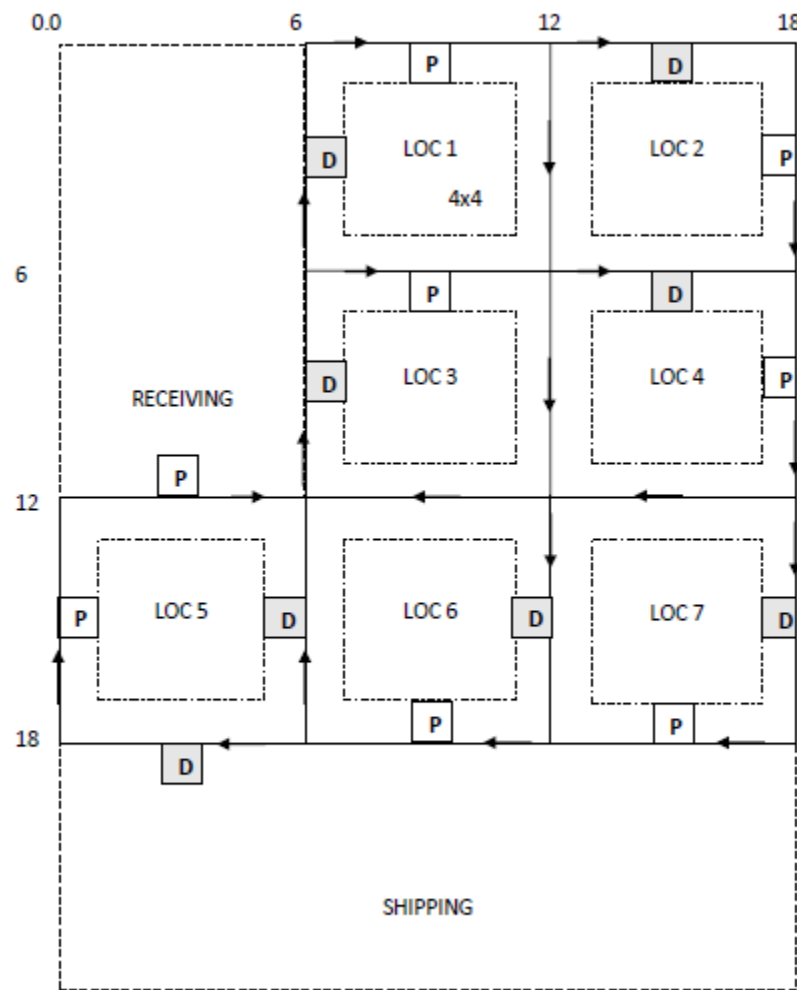

Figure 1: Candidate machine locations together with P and D stations and the AGV flow path
The block layout of the facility is shown in Figure 1. There are 7 different locations (LOC) that can be used for 6 CNC machines and a central buffer area. The locations of the machines and the buffer zone have not been determined yet. Each machine can fit into an area of 4m x 4m and any of the candidate locations can be used for any machine. The parts to be processed enter the system through a receiving station (R) and completed parts leave through a shipping station (S). These locations are shown in Figure 1.
The transfer of parts among all stations will be carried out by a fleet of automated guided vehicles (AGVs)*. The AGVs can carry one load at a time and they are always routed along the shortest path to their destination. The AGVs travel on the aisles between the machines. The aisles designated as AGV lanes are uni-directional. An AGV can travel in forward direction only and it is possible to load or unload it from both sides. Each location in the layout has a delivery (D) and a pick-up station (P) (or a P/D station which can perform both tasks). AGVs align at these nodes for transferring parts to and from input and output queue spaces that will serve the machine located there. These nodes are located at the mid-points of the lanes (i.e. three meters from each junction). The AGV flow path including lanes, direction of traffic flow on the lanes and locations of the pick-up and delivery nodes are also given in Figure 1.